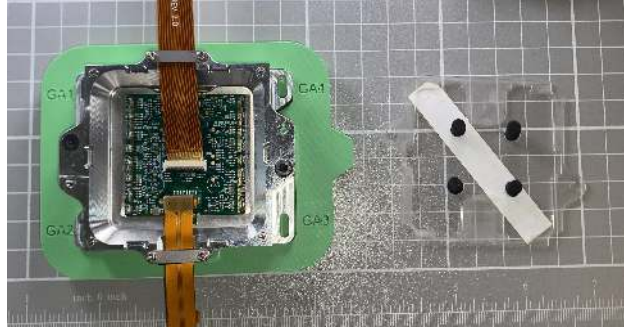

Figure 6: Frontside orientation for visual inspection.
- Carefully take the cover off the top of the module by unscrewing the screws that hold down the plastic cover, placing the cover upside down so that the foam pieces are not in contact with anything and then placing the module inside the green 3d printed carrier used for imaging the front side, this can be seen in Fig 6.
- Once in the carrier and set below the camera inside of the blue carrier holder. Make sure that the orientation of the chips is the same as in Fig 6 with GA1 at the top left.